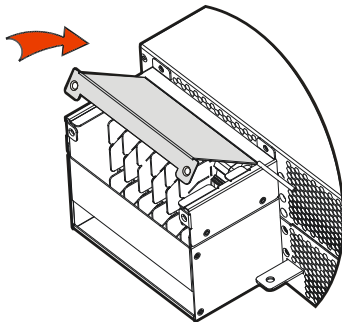

Figure3-27 Reinstall the wiring row cover
Step 4 Reinstall the wiring row cover in the corresponding position of the chassis, as shown in Figure3-27.